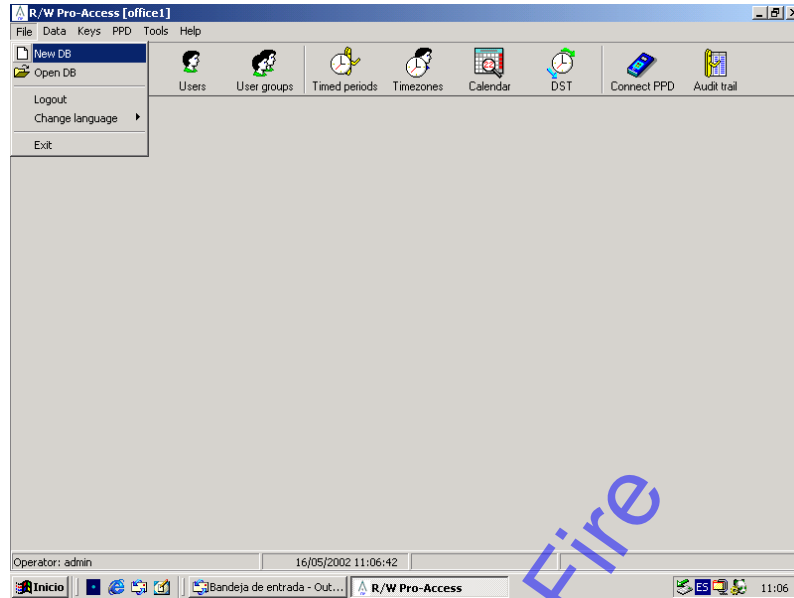

Figure 3
- A window like that of Figure 3 will display.
- If the application is used in multiworkstation mode, It is important not forget the directory name where the data base will be saved, as well as doing backup copies of the data base, since the whole locking schedule is intrinsically linked to it. See Figure 3.
(Fig. 3)